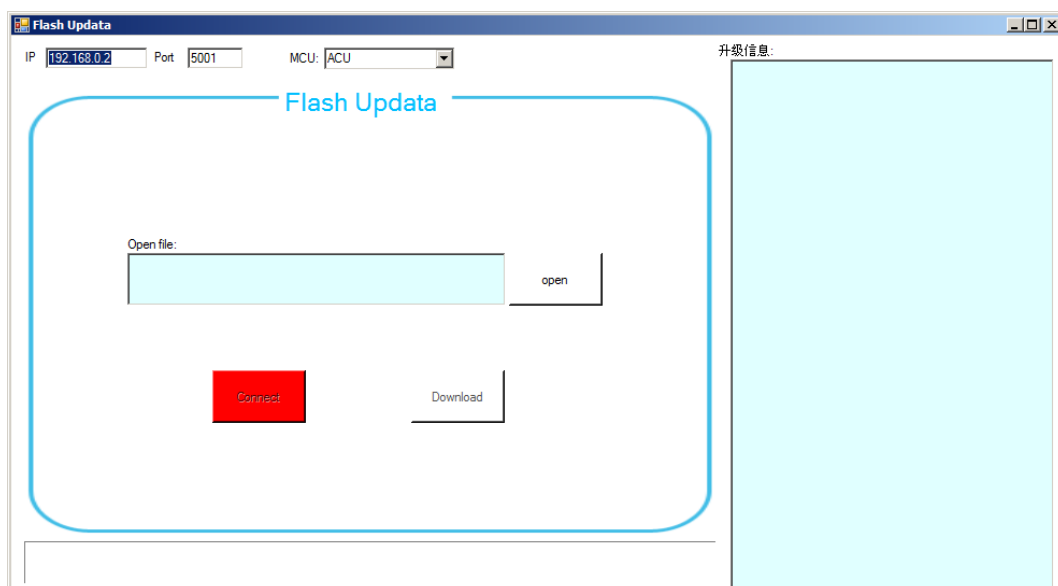

Figure 7-24: Flash Update Form
- **Upgrade** submenu item allows Management Control Units - MCU (ACU or Master Control) software upgrade. The **Upgrade** item selection opens **Flash Update** form, shown at Figure 7-24.